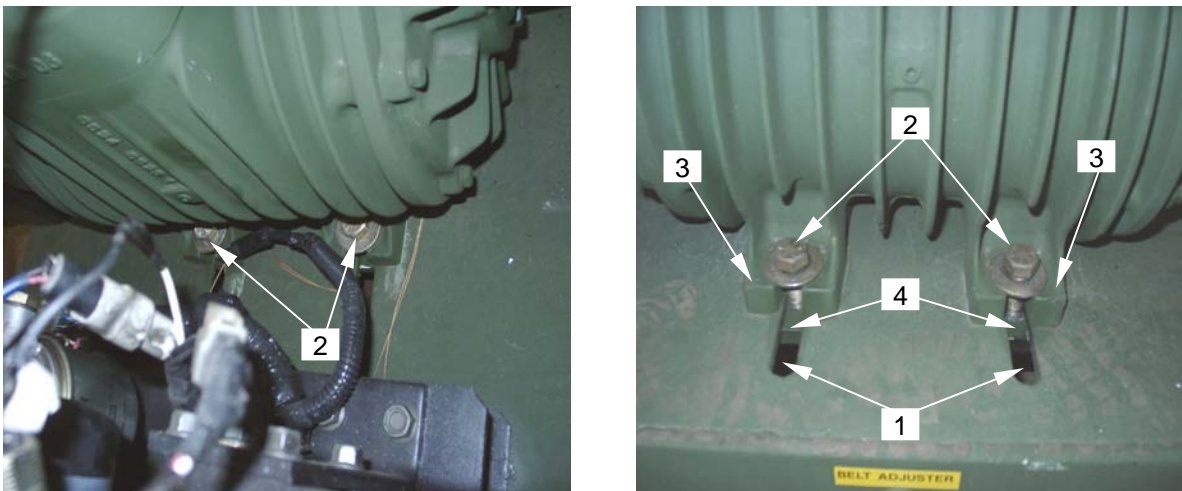

Figure 9. Vacuum Pump Installation
21. Secure the vacuum pump with a lifting strap. Remove the vacuum pump from the skid using a mechanical lifting device. Place new pump onto the skid in the same manner. Align the pump legs with the slots in the skid (**figure 9, item 1**).
22. Install hex bolts and flat washers (**figure 9, item 2**) securing the pump to the skid through the pump legs (**figure 9, item 3**) and into the adjuster plate (**figure 9, item 4**). Do not tighten.